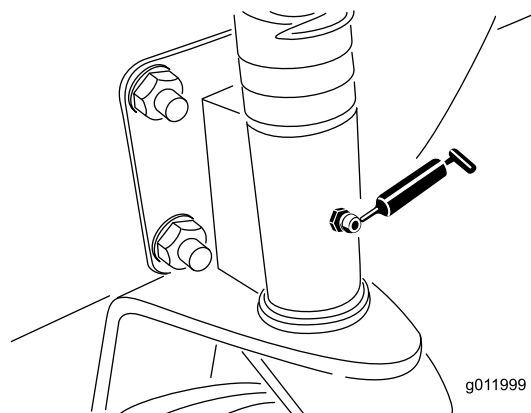

Figure 11
Under normal conditions, grease the (2) drive shaft fittings after every 100 hours of use (Figure 11). Use a No. 2 Lithium-based grease.